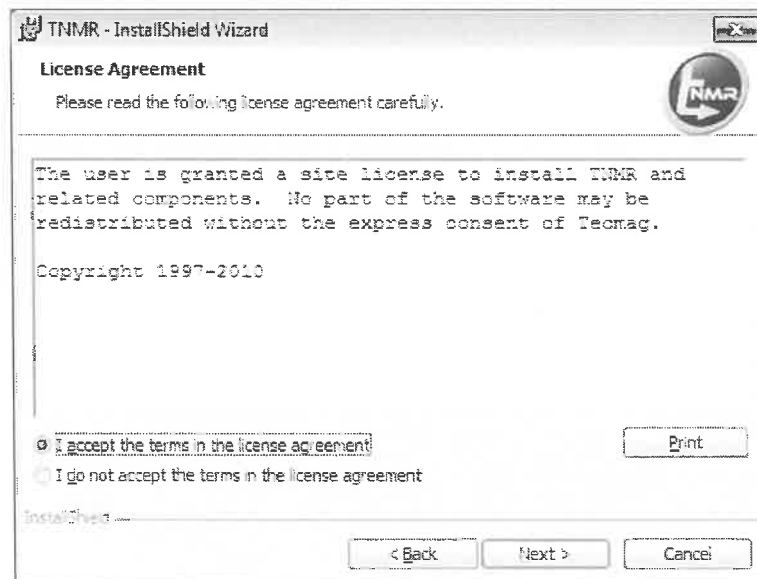

Figure 4
4. Read and accept the terms of the License Agreement, and click Next. (See Figure 4)